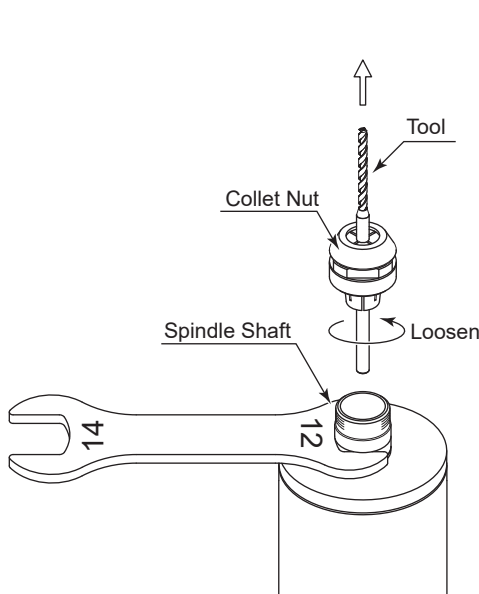

Fig. 8
- (1) Remove the tool according to the section " 8. CHANGING THE TOOL " procedure above and remove collet nut assembly (Fig. 8).